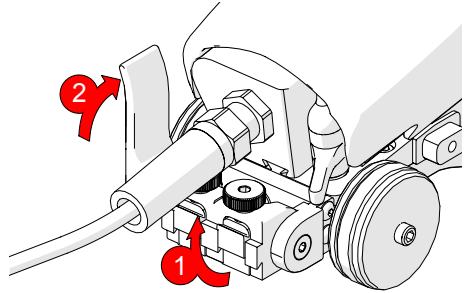

Fig. 31 - Return pivot position
4. Rotate the pivot to the original position and lock the side-mounted lever (Fig. 31).